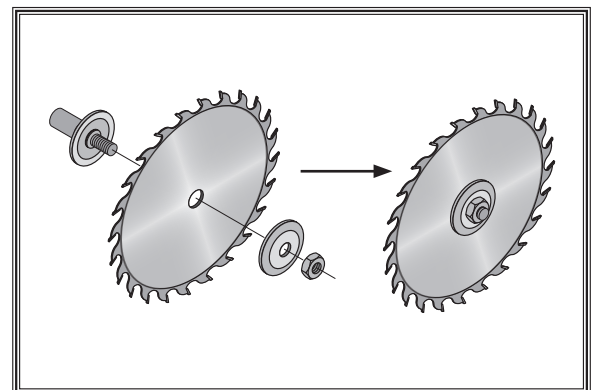

Figure 3. Example of correct blade direction and blade components installation order.
4. Slide the blade over the arbor with the teeth facing the front of the saw, as shown in **Figure 3**.